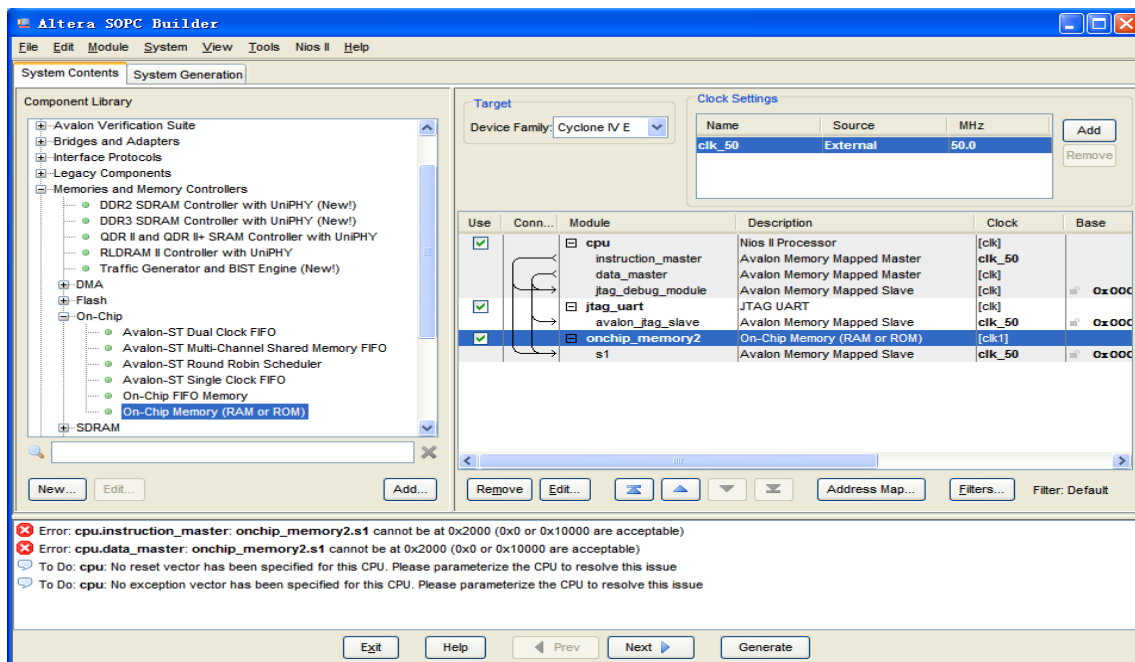

Figure 7-27 Rename On-Chip memory
17. Rename **onchip\_memory2\_0** to **onchip\_memory2** as shown in Figure 7-27.